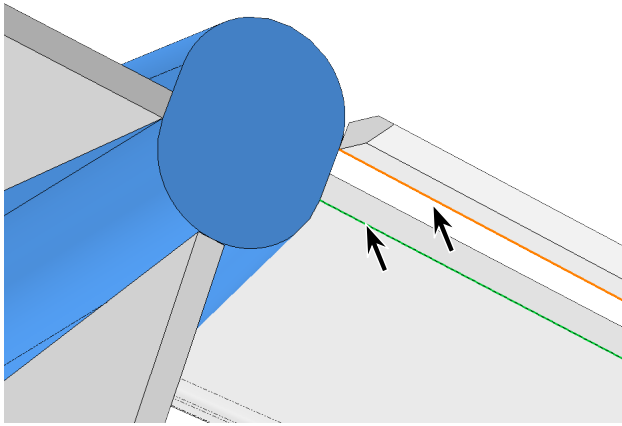

Fig. 11
Step 6. Click **top edge H Stab** and **top edge of Elevator**, **Fig. 11**.